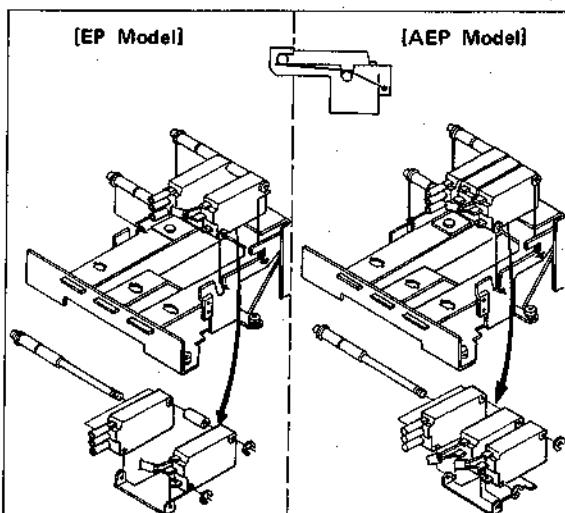

Fig. 2-10. Microswitch replacement
2. Unhook the spring pressing the microswitch holding shaft against its bracket. Carefully draw out the microswitches along with their holding shaft as shown in Fig. 2-10.
3. Remove the retaining rings at one side of the shaft, and then replace the defective microswitch as shown in Fig. 2-10.